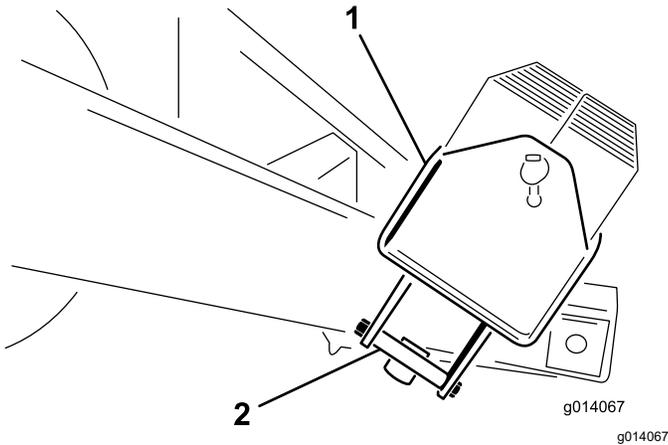

Figure 5
2. Remove the bolts (1/2 x 5-1/2 inches) from the mounting bracket holding the weight case. Discard the mounting brackets (Figure 5).